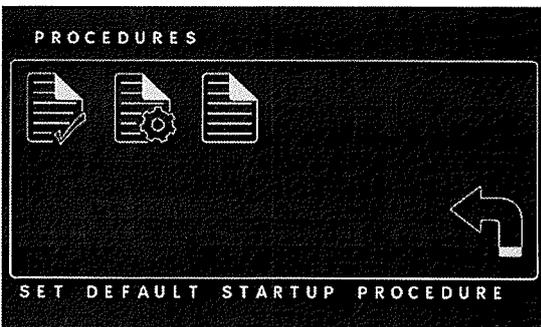

Figure 42.
2. Highlight the **Set Default Startup Procedure** icon (Figure 42) and press the **Select** button to select it. A screen showing the available procedures opens.